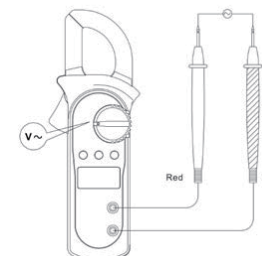

Figure 4
B. Measuring AC Voltage (See Figure 4)